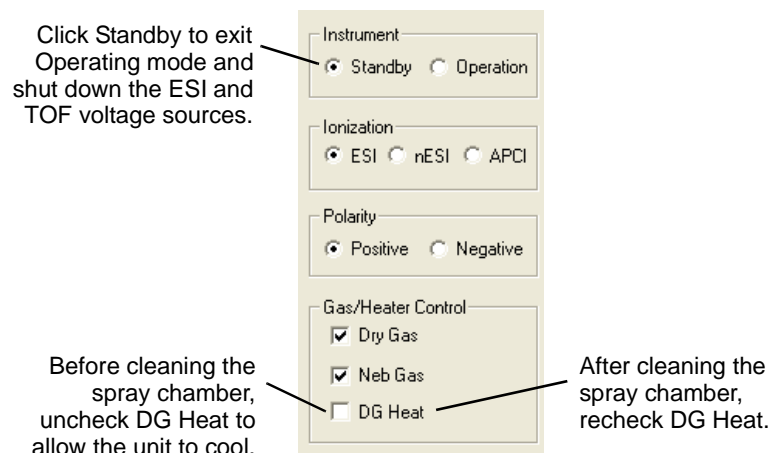

Figure 3-22 System Control Settings for Standby
1. Click **Standby** in the Instrument group to bring the instrument from operation mode to standby mode (Figure 3-22).